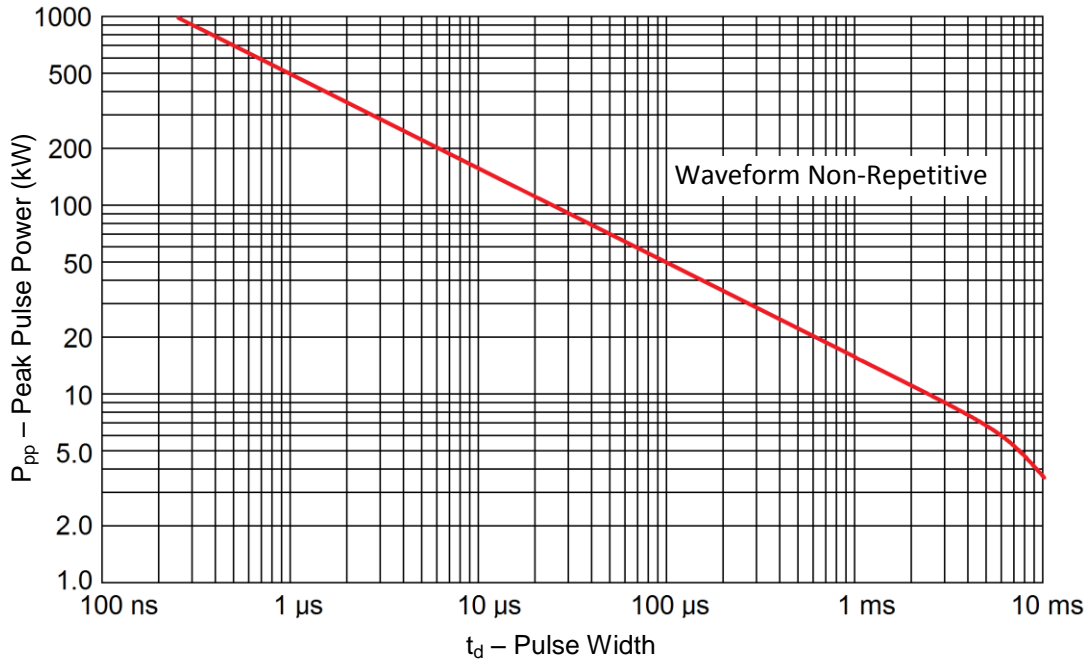

FIGURE 1
- With impulse repetition rate (duty factor) of 0.01 % or less (also Figures 1 and 2).